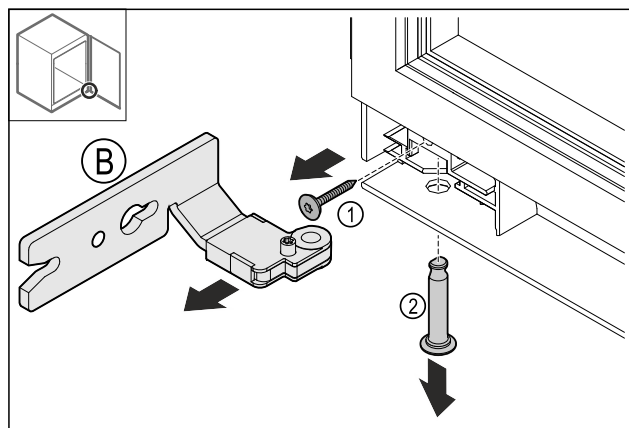

Fig. 16
- Remove the screw Fig. 16 (1).
- Remove the bolt Fig. 16 (2).
- Remove the hinge Fig. 16 (B).